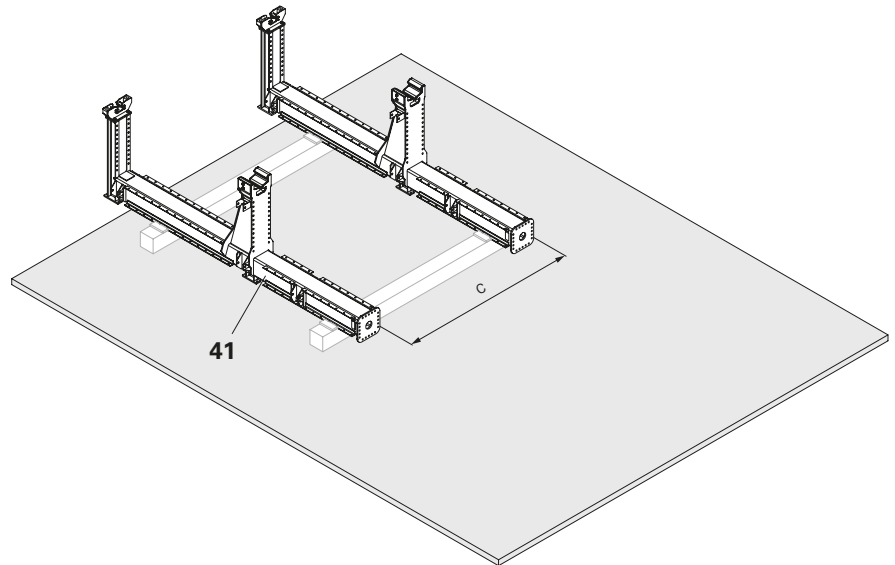

Fig. B4.03
1. Set the Console Bracket ACS-G (41) down on its rear side while observing the console bracket spacing. (Fig. B4.03)
2. Bolt the compression strut for Cross Bracing ACS (42) at the installation position with the fixing materials provided.